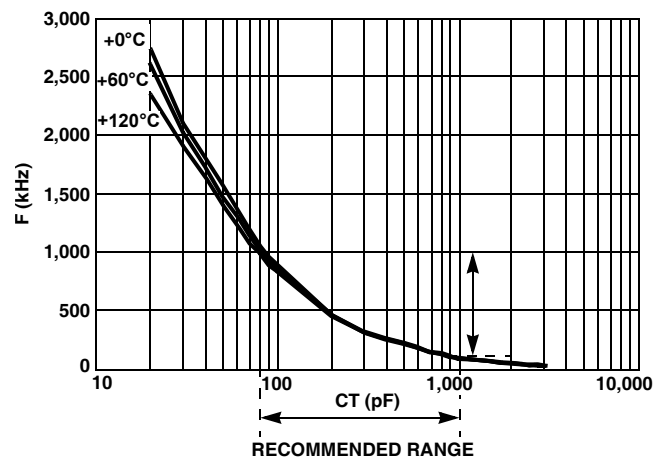
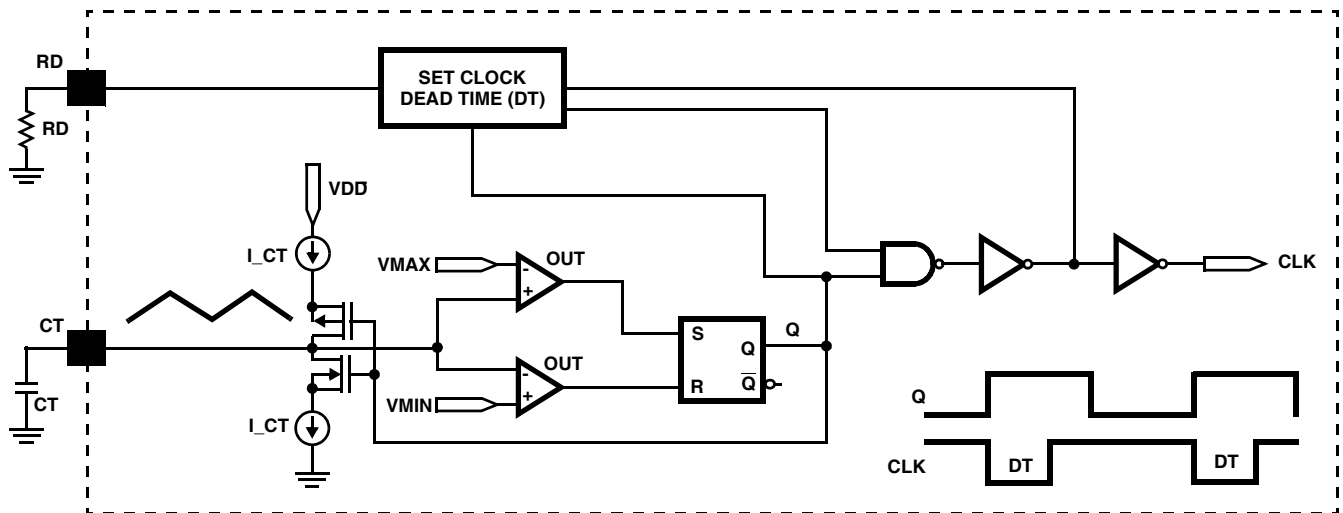

FIGURE 1. CT vs FREQUENCY
FIGURE 2. SIMPLIFIED CLOCK GENERATOR CIRCUIT
- This free-running oscillator is set by two external components, as shown in Figure 2. A capacitor at CT is charged and discharged with two equal constant current sources and fed into a window comparator to set the clock frequency. A resistor at RD sets the clock dead time. RD and CT should be tied to the VSS pin on their other ends as close as possible. The corresponding CT for a particular frequency can be selected from Figure 1.